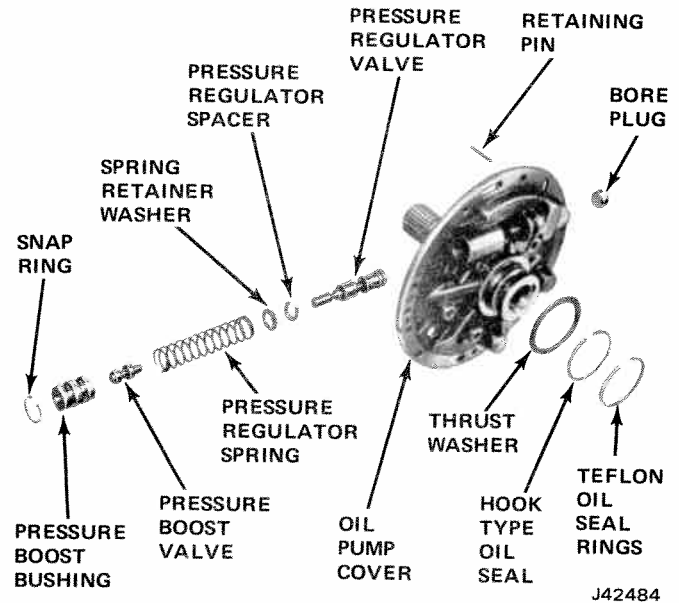

Fig. 7-54 Oil Pump Cover Assembly
(1) Place oil pump assembly in hole in bench and Adapter J-21364.
(2) Compress pressure boost valve bushing against pressure regulator spring and remove snap ring from pump cover (fig. 7-54).
(3) Remove pressure boost valve bushing and valve; then remove pressure regulator spring from pump cover.
(4) If furnished, remove spring retainer washer, pressure regulator spacer, and pressure regulator valve from pump cover.
(5) Remove attaching bolts and pump cover from pump body.
(7) Remove hook type oil rings and thrust washer from pump cover (fig. 7-54).
(2) With stator shaft protected, clamp pump cover in vise.
(3) Insert spacer(s), if used, spring retainer washer and spring into pressure regulator bore of pump cover (fig. 7-54).
(4) Install pressure regulator valve from opposite end of bore, stem end first.
(5) Install boost valve into bushing, stem end out; then insert both parts into pump cover.
(6) Compress bushing against spring, and secure into pump cover with retaining snap ring.
(7) Install pressure regulator valve bore plug at opposite end of bore, and secure with retaining pin.
(8) Install selective thrust washer and one hook type oil seal ring and one teflon oil seal ring on delivery sleeve of pump cover.